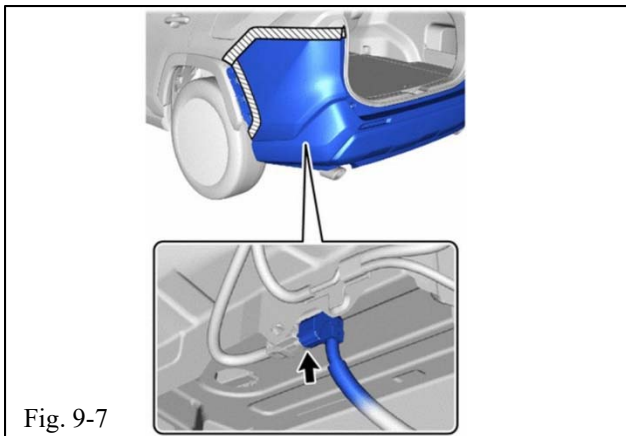

Fig. 9-7
- ⚠ (j) For vehicles with intuitive parking assist system with hands-free power rear door, disconnect the connector (Fig. 9-7).